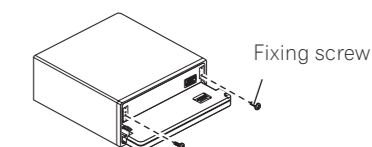

Fig. 18
4. Fix the front panel to the unit using fixing screws. (Fig. 18)